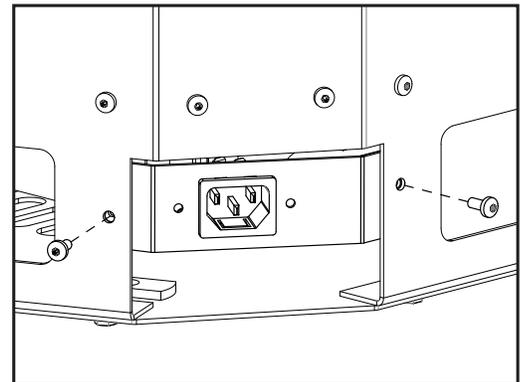

Figure 77: Electrical Plug Disconnect
1. Disconnect the IEC outlet plate (see Figure 77).